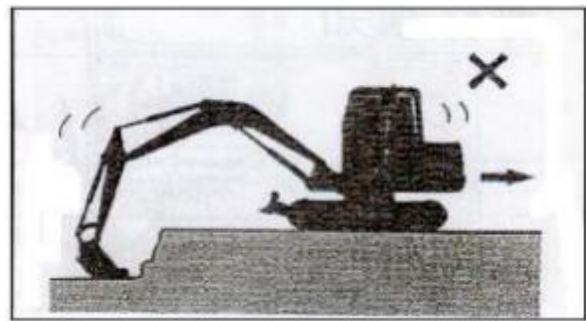

Fig 3-30
7. When the bucket encounters special resistance on the ground, do not walk or swing (Figure 3-30).